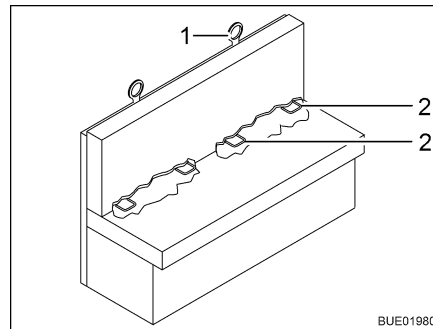

Fig. 19 ISOFIX child safety seat mounting system
If the vehicle is equipped with the ISOFIX child safety seat mounting system, the vehicle seats suitable for it are marked with the ISOFIX symbol. These vehicle seats have retaining brackets (Fig. 19,2) and another anchorage point at the top of the seat backrest (Top Tether) (Fig. 19,1). Use child restraint system suitable for ISOFIX. The child restraint systems possess connectors which are latched to the retaining brackets of the vehicle seat.
- If possible, fasten the child seat at the Top Tether (Fig. 19,1).